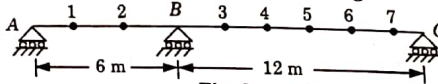

Fig. 2.
- b. Using Muller Breslau Principle, compute the influence line ordinates at 2 m intervals for moment at mid span of BC of the continuous beam ABC shown in Fig. 2.